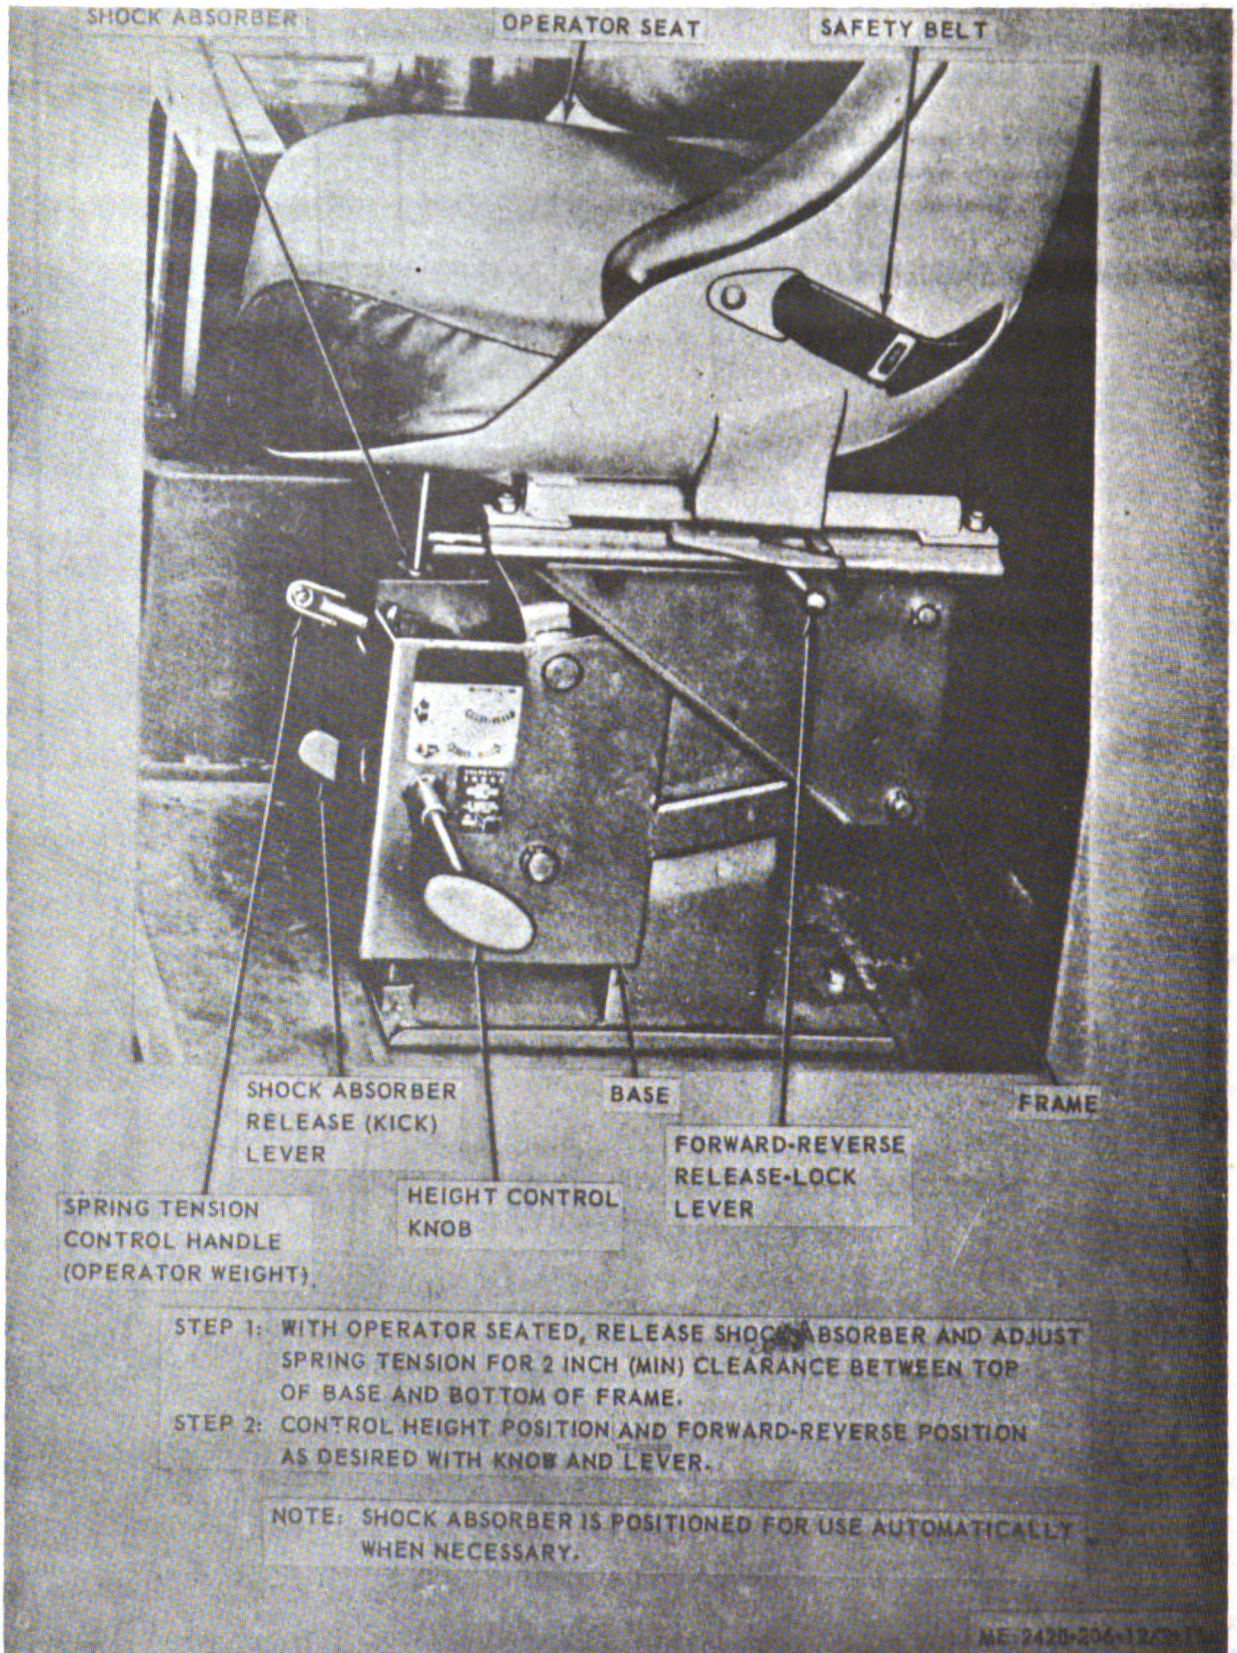

Figure 2-13. Operator seat adjustment.
b. Operator seat adjustment is illustrated in figure 2-13.